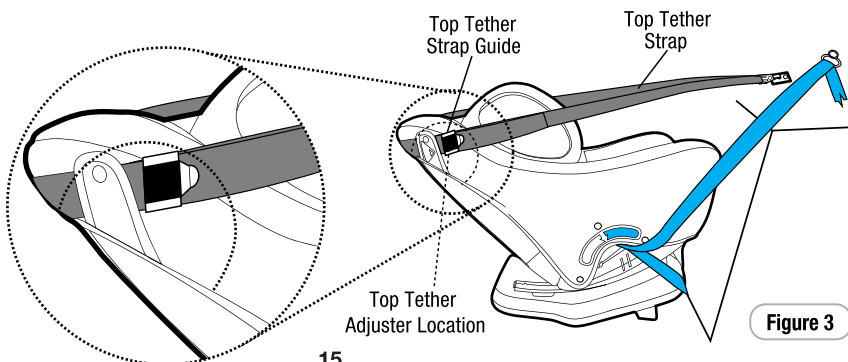

Figure 3
**Step 3:** Locate the adjuster at the side of the restraint and secure using the top tether strap guide (refer Figure 3).